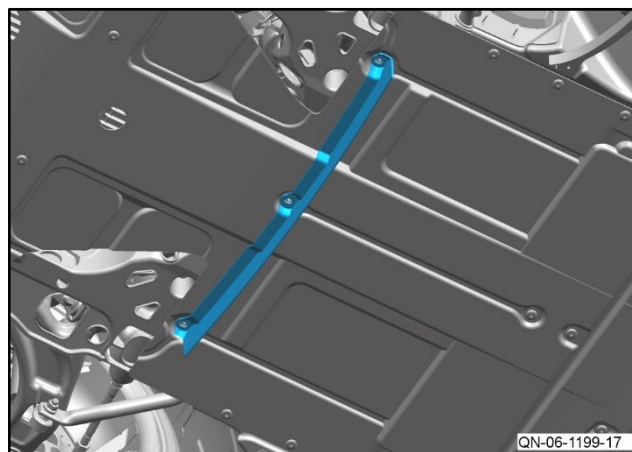

Figure 24
- 24** Put the new air dam into position (refer to Figure 24).